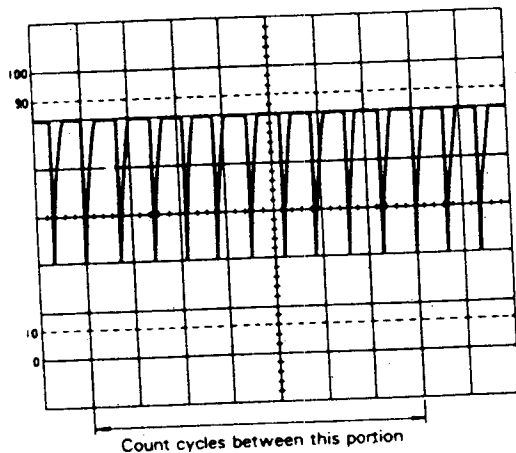

Fig 16. Alternate Method of Frequency Measurement.
(Refer to Fig. 16)
- Count the number of cycles of waveform between a chosen set of vertical graduation lines (see Fig. 16).
For the example shown in Fig. 16, there are 10 cycles within 7 divisions. If the sweep **TIME/DIV** is 5  $\mu\text{s}$  and **X10** magnification is not used, the frequency is calculated as follows: